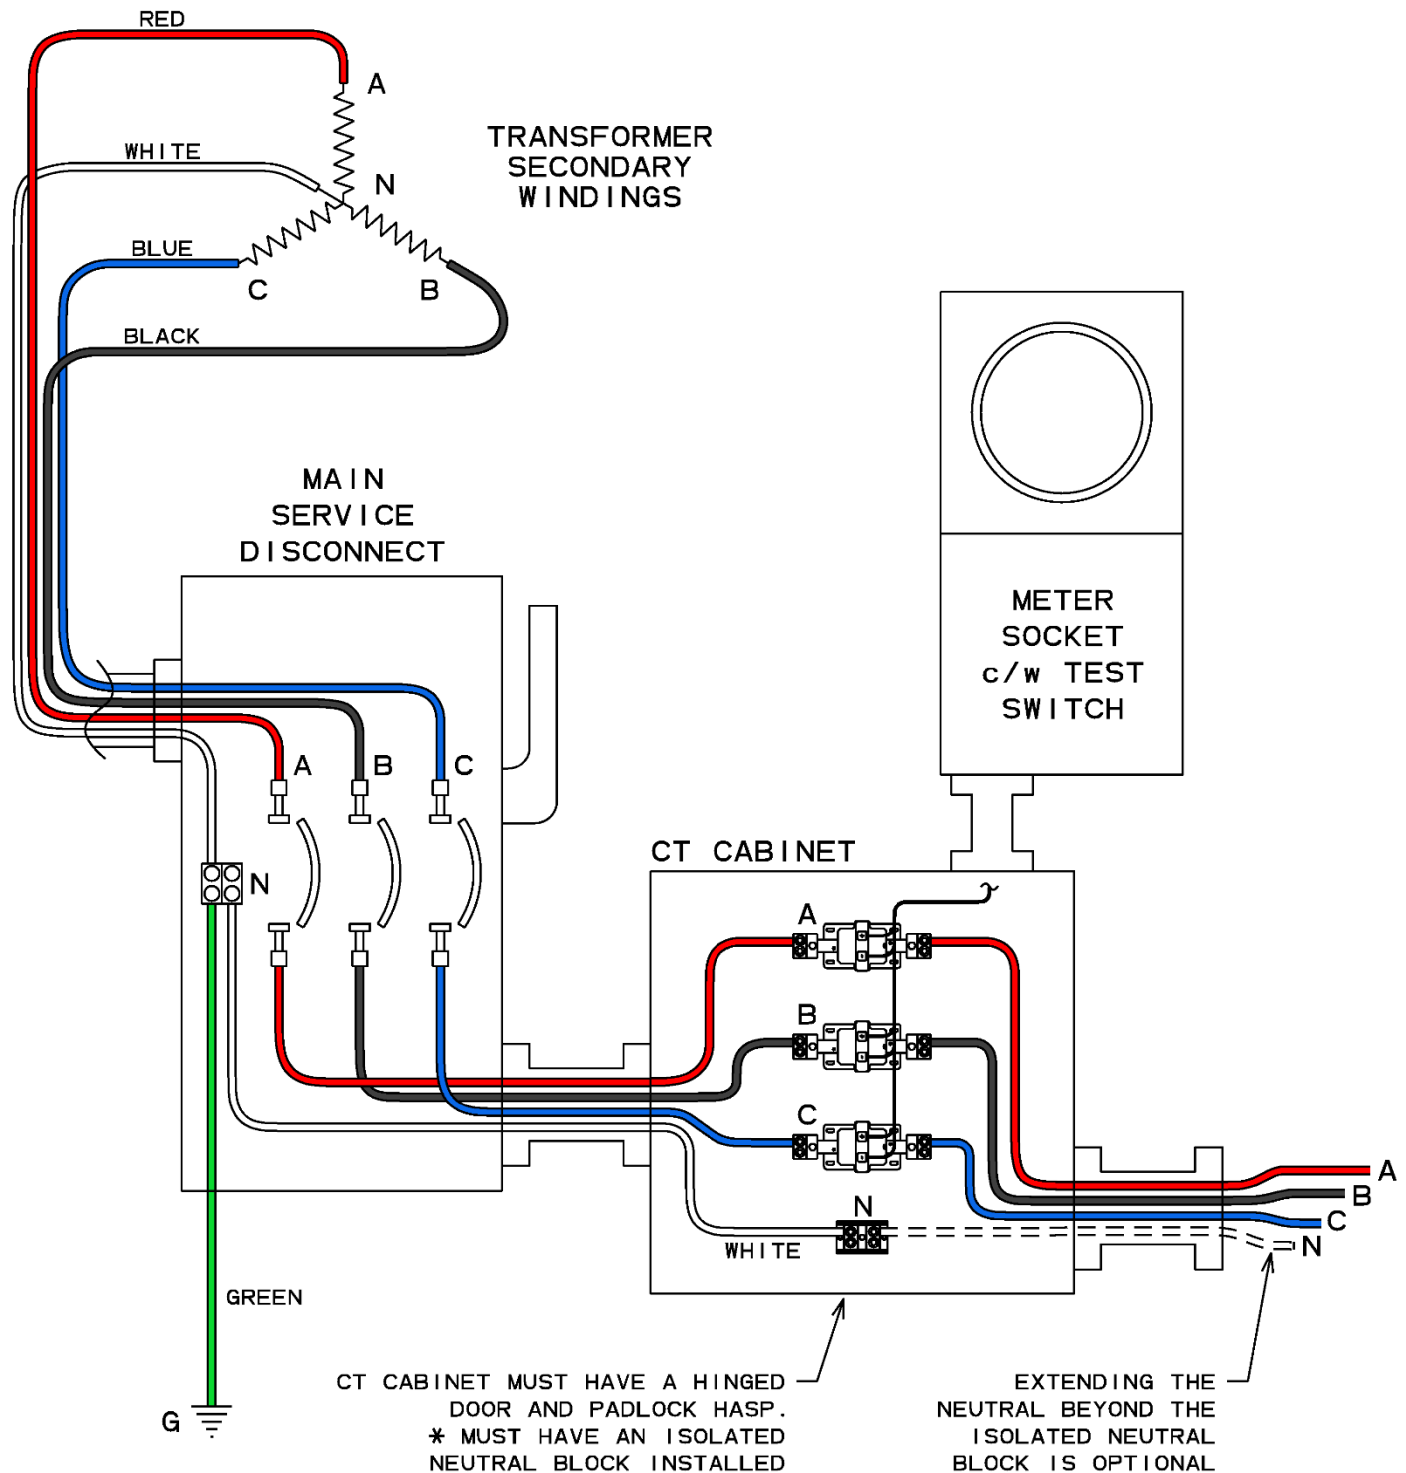

Figure 8 – Three-Phase, 4-Wire Wye Instrument Metering Wiring Detail
- 5.27.6.4 Unless an NGR is installed, all three-phase services shall be supplied as 4-wire solidly grounded wye. The grounded conductor, required by Canadian Electrical Code, Part 1 Rule 10-210 [B1] shall be run from the X₀ bushing of the supply service transformer to the bonding point at the main service disconnect. When the neutral is not required beyond the bonding point, FortisAlberta will accept a minimum #6 AWG white insulated conductor, run from the bonding point to an isolated neutral block within the instrument transformer enclosure, for all indoor instrument metered installations (refer to Figure 8).
- 5.27.6.5 FortisAlberta shall make all secondary connections to potential transformers, currents transformers, fuse blocks and instrument meter sockets (refer to Figure 8).